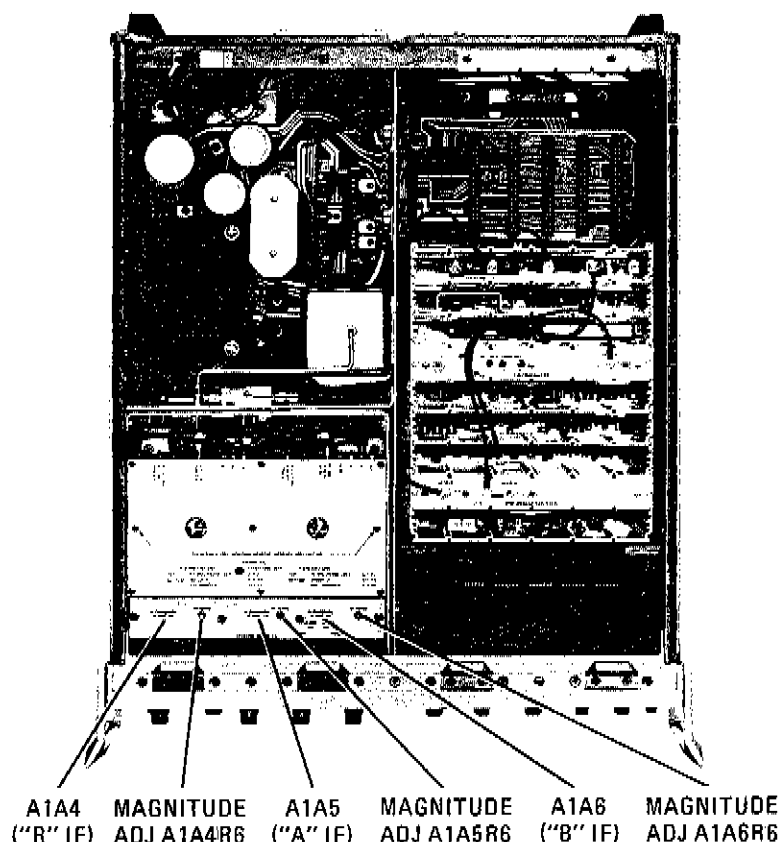

Figure A5-9. IF Amplifier A1A4/A5/A6 Adjustment Locations
- c. Adjust MAGNITUDE ADJ A1A4R6 on "R" Channel IF amplifier A4 (Figure A5-9) for a DVM indication of 0.35 VRMS  $\pm$  0.02 VRMS.
- d. Disconnect coaxial cable from the front panel R INPUT and connect it to A INPUT. Disconnect the DVM from Pin 9 of XA4 and connect it to Pin 9 of XA5 (Figure A5-8). Adjust MAGNITUDE ADJ A1A5R6 on A Channel IF amplifier A5 (Figure A5-9) for a DVM indication of 0.35 VRMS  $\pm$  0.02 VRMS.